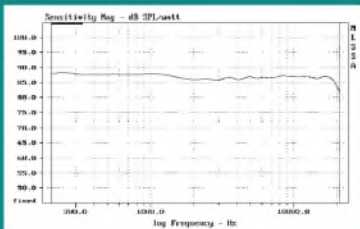

FIGURE 8: PSB Stratus average horizontal response ($\pm 30^\circ$).
The average response over a 60° horizontal window (±30°) in the forward direction is shown in *Fig. 8*. This average response is one of the smoothest I have measured. Between 200Hz and 18kHz response is within ±1.5dB. This is excellent horizontal performance and suggests good direct field coverage in the primary listening area with only small changes in timbre with position. Image stability should be very good.
- *Figure 2*—While the smoothness was expected, I didn’t hear the mild dip around 3kHz. Normally I would, having complained often about recessed midrange. I think *Fig. 8* explains this.
- *Figure 8*—Joe said that “average horizontal response over a 60° angle is a good indicator of tonal quality.” Well, one look at *Fig. 8* certainly agrees with the superb, uncolored tonal realism I heard.
- *Figure 6*—The excellent decay above 4kHz, coupled with the outstanding smoothness in *Fig. 8*, explains the pristine violin tone and ultra-clear transient reproduction I heard. I was not aware of coloration due to the “ridges” Joe mentioned at 2.4 and 3.75kHz. I think that’s because these ridges don’t appear to start their slow decay until about 30dB below the initial response (which decays that first 30dB very quickly, in about 1 ms).